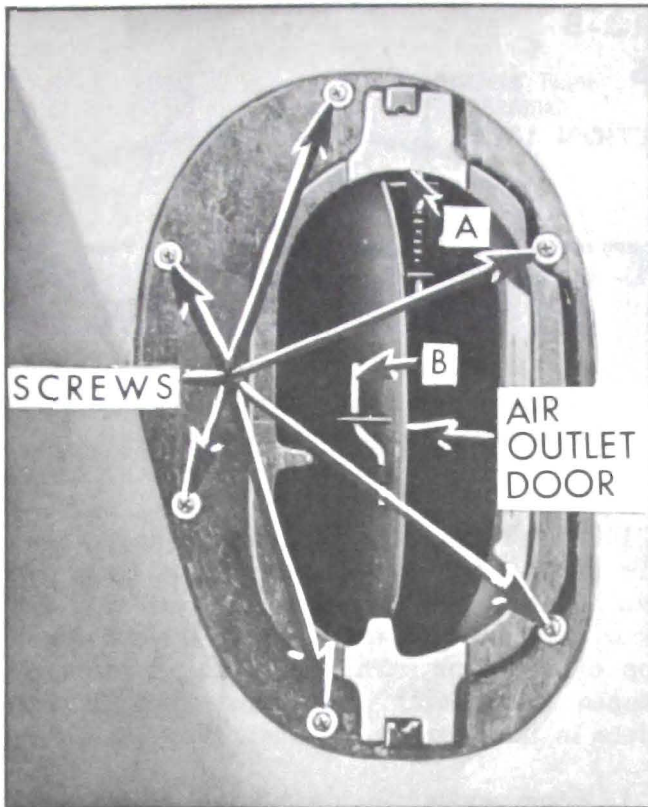

Figure 13-25—Air Outlet Door
2. Remove screws securing outlet to shroud panel, disengage cable from pin on door and remove outlet. See Figure 13-25.
2. Remove end of control cable from pin indicated at "B" in Figure 13-25.